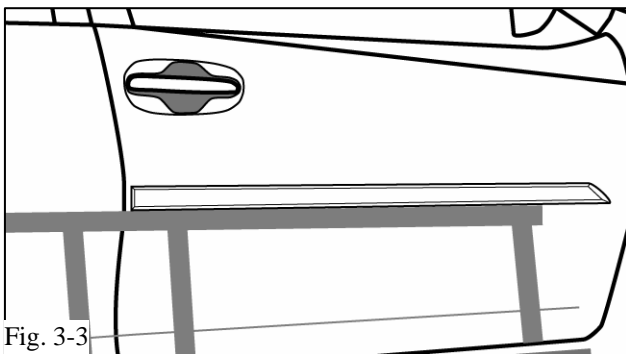

Fig. 3-3
- (e) Align the bottom of the molding flush with the top edge of the tape spanning the doors. (Fig 3-3)